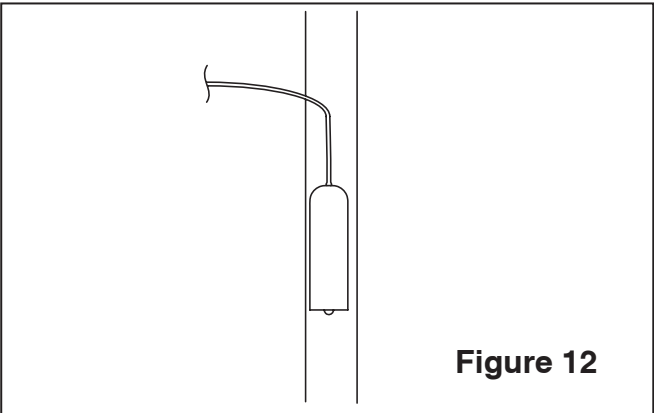

Figure 12
- Orient the sensing bulb with the tube exiting out the top to the vapor line extension as shown in Figure 12. Use the supplied TXV bulb strap shown in Figure 13 to secure the bulb in place. In some cases, the bulb strap is required when the new bulb size is different from the existing sensing bulb.